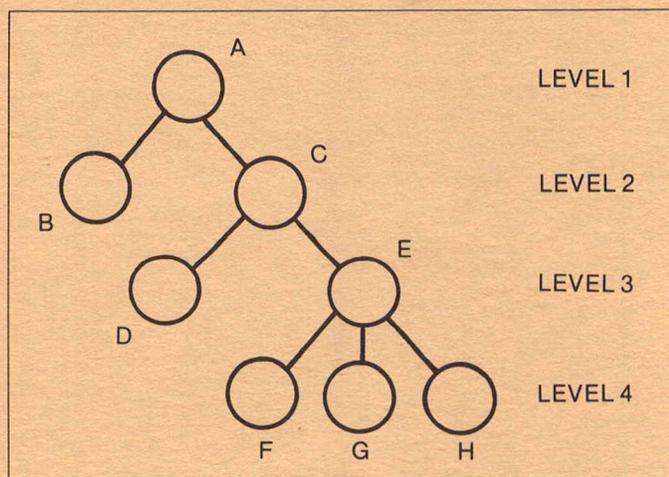

Figure 1. Top-down structure of subroutine in a typical software module.
Programmers in SPS perform the tests in a top-down fashion, using the levels in a subroutine hierarchy graph to divide the tests into groups. Typically, all subroutines in the  $i$ th level are tested before the subroutines in the  $i + 1$ st level. To illustrate how we use the top-down procedure, let's assume a set of subroutines in one module are related as in figure 1. In this case we would perform tests on level 1 (subroutine A) in order to evaluate integration of each new module into the system formed by previously tested modules. Next, we would evaluate level-2 subroutines. This process would continue down through each level to the fourth level. Stub subroutines can replace some of the actual subroutines at the next level down when testing all but the lowest-level subroutines. Stubs can be very simple, for example, "exit," "print a message," and "timing loop."
from figure 1, we would start testing subroutine A with the stubs for B and C; and next test subroutines B and C with stubs for D and E; and proceed to test subroutines D and E with stubs for F, G, and H. Finally, we would integrate subroutines F, G, and H into the module being tested and evaluate the module without stubs. To better isolate errors, we would evaluate subroutines one at a time.
4. Sketch a block diagram, like figure 1, of the relationship of subroutines in the module.